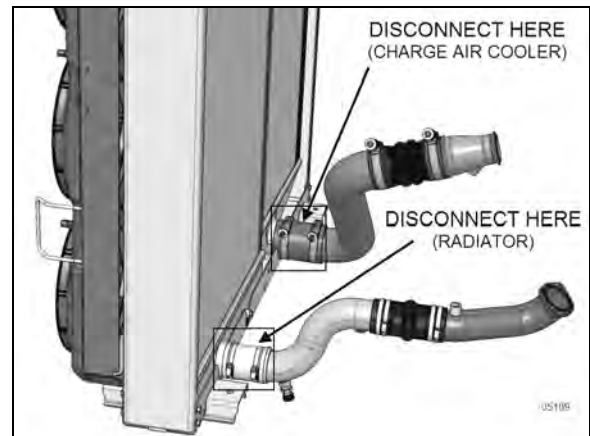

FIGURE 32: RADIATOR & CAC LOWER CONNECTION
10. Disconnect the radiator lower pipe directly at the radiator outlet (Figure 32).